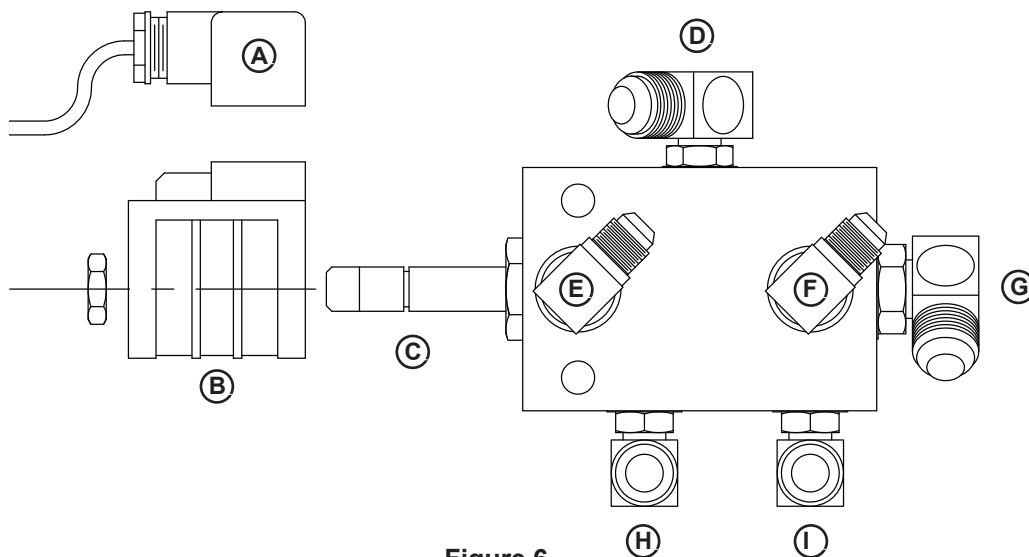

Figure 6
On combination units (single Powerpack operating both leveler and restraint), fluid directs to leveler until coil (B) is energized, then diverter valve (C) directs fluid to restraint. See Figure 6.